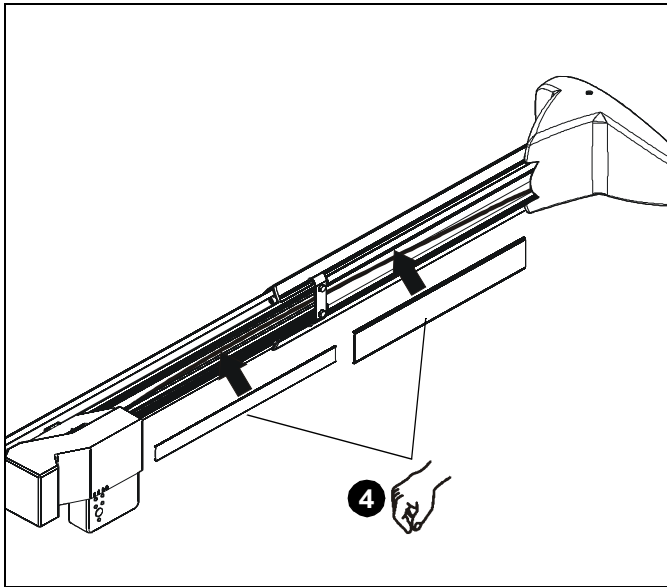

Figure 26
- Replace removed cable management covers (if necessary). Insert one side of cover into groove and press down firmly on the cover on the other side until it snaps into the other groove. (See Figure 26)